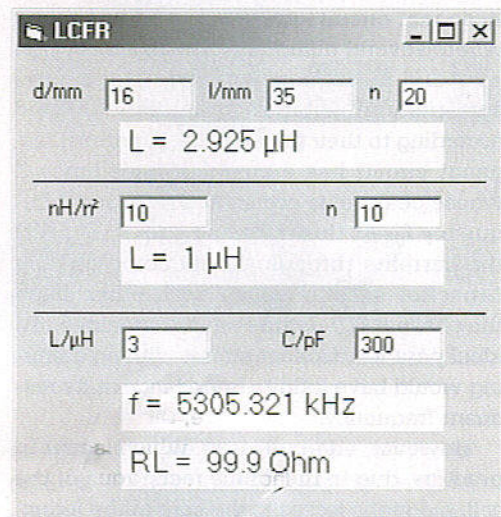

Figure 6. User interface for the inductor calculation program.
A small Visual Basic (VB) program called **LCFR** has been written to make calculations for inductors and resonant circuits. The source and executable code for this program can be obtained free of charge from the *Elektor Electronics* website. The number is **030398-11**, see this month's Free Downloads. This program, whose user interface is shown in **Figure 6**, calculates the inductance of air-core inductors and inductors using cores with known  $A_L$  values. In addition, it can determine the resonant frequency and inductive impedance  $R_L$  of the inductor at resonance if a capacitance value is entered in addition to the inductance value.